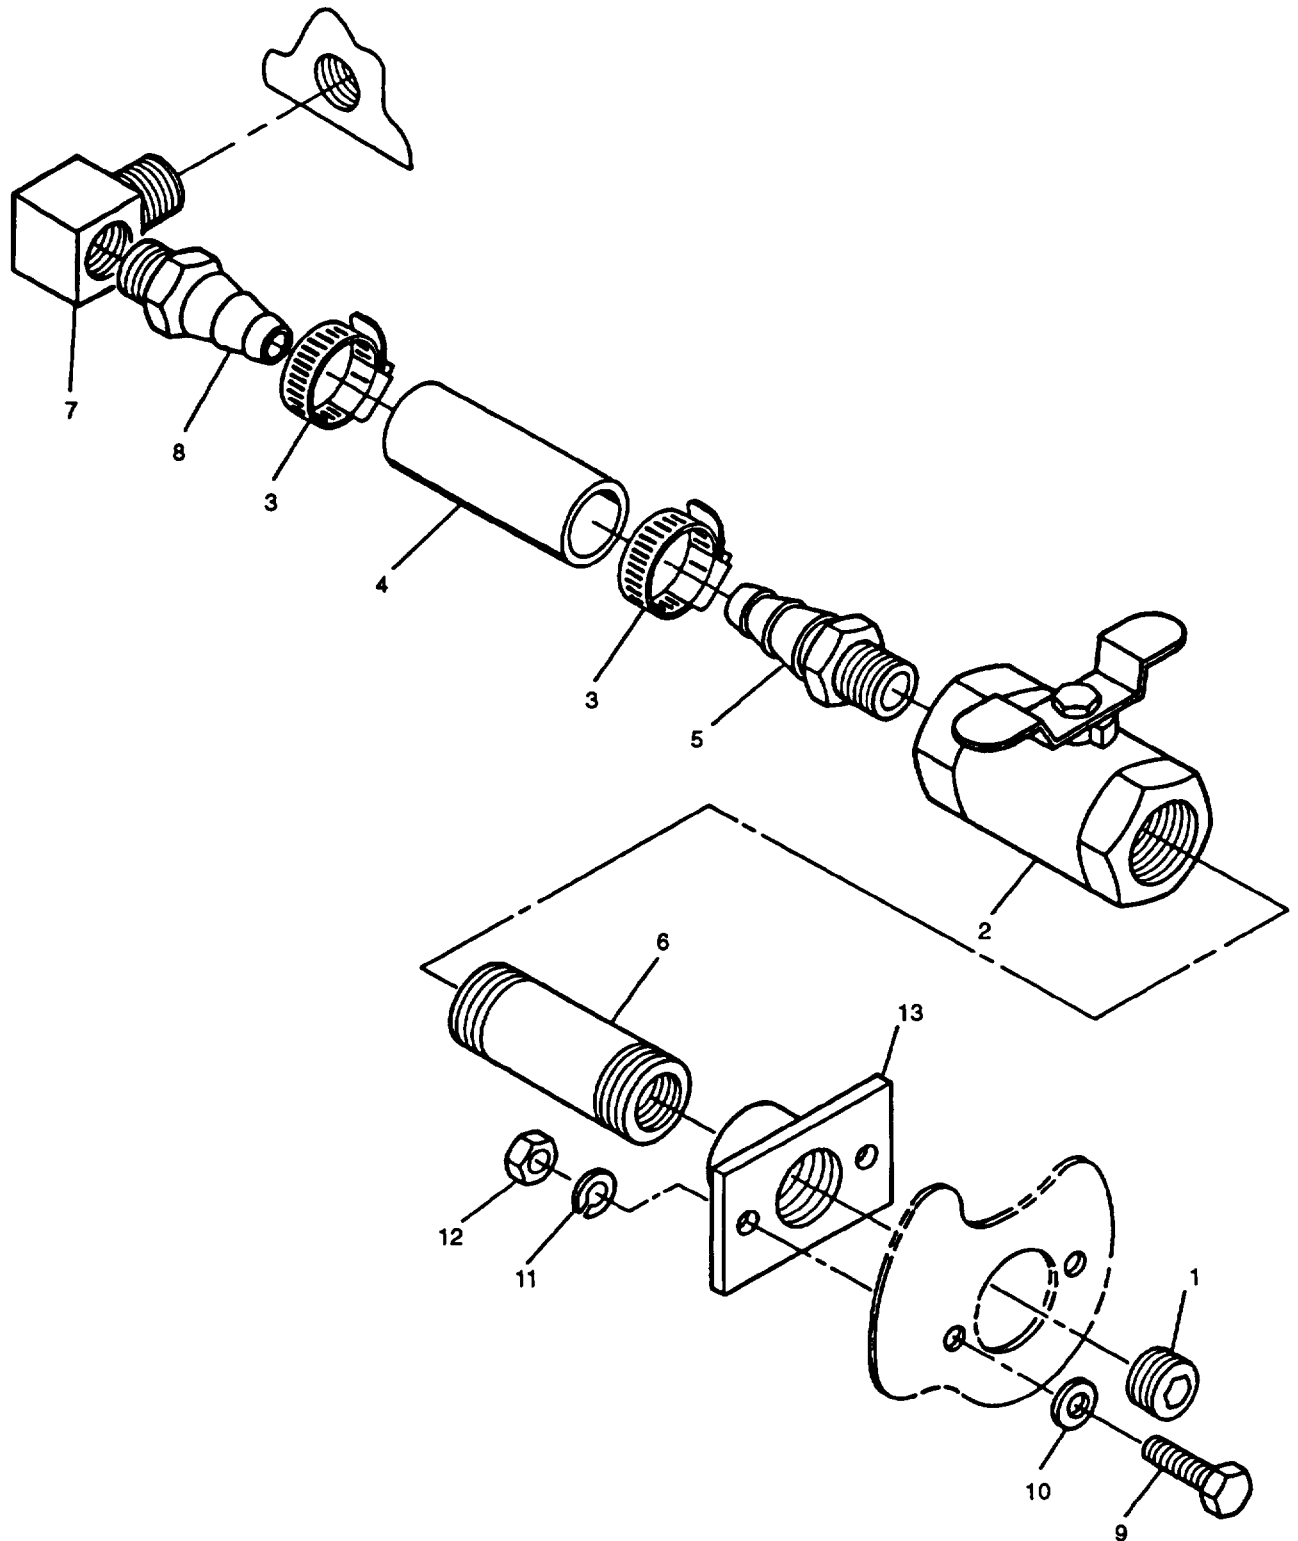

FIGURE 2-23. Engine Oil Drain Line
- c. Remove plug (1, FIGURE 2-23), open drain engine oil into suitable container.
- d. Remove dampers (3) and drain hose (4).
- e. Remove drain valve (2), fitting (5), and pipe (6) from plate (13).
- f. Remove fitting (5) and pipe (6) from drain valve (2).
- g. Remove elbow (7) and fitting (8) from engine.
- h. Remove fitting (8) from elbow (7).
- i. Remove bolts (9), washers (10), lockwashers (11), nuts (12), and plate (13) from left side engine door sill.
- a. Install plate assembly (13, FIGURE 2-23) in left side engine door sill with bolts(9), washers (10), lockwashers (11), and nuts (12).
- b. Install fitting (8) in elbow (7).
- c. Install elbow (7) and fitting (8) assembly into engine.
- d. Install pipe (6) and fitting (5) in drain valve (2).
- e. Install drain valve (2), fitting (5), and pipe (6) into plate (13).
- f. Install drain hose (4) with dampers (3).
- g. Close drain valve (2), install plug (1) and add engine oil to proper level. See TABLE 2-3 for proper lube oil. Check for leaks.